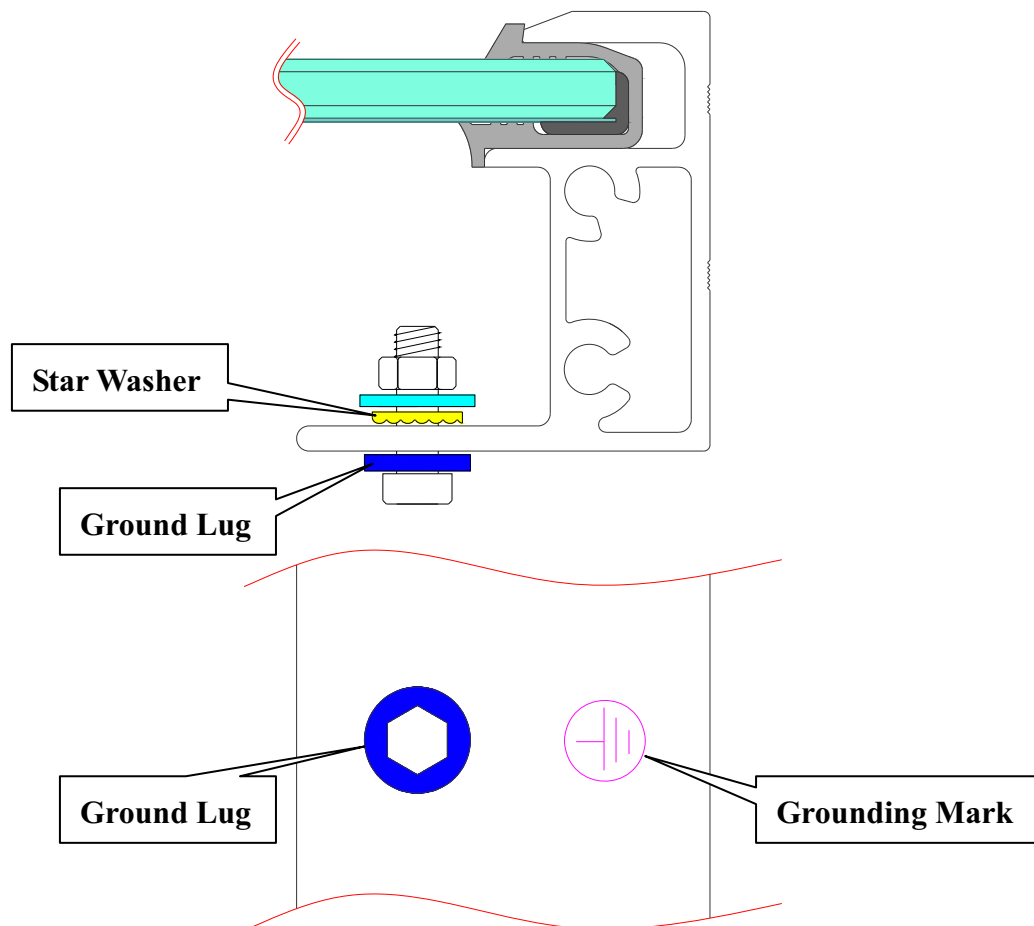

Figure7 : The diagram of grounding structure for PV module.
- It is recommended to use a M4 stainless bolt with other necessary parts as showed in Figure7.